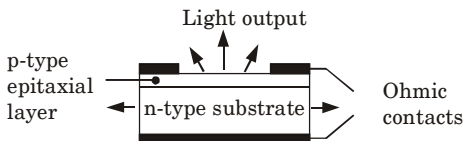

Fig. 3.4.1. The structure of a planar LED showing the emission of light from all surfaces.
2. This involves a p -type diffusion into the n -type substrate in order to create the junction as shown in Fig. 3.4.1. Forward current flow through the junction gives Lambertian spontaneous emission and the device emits light from all surfaces.